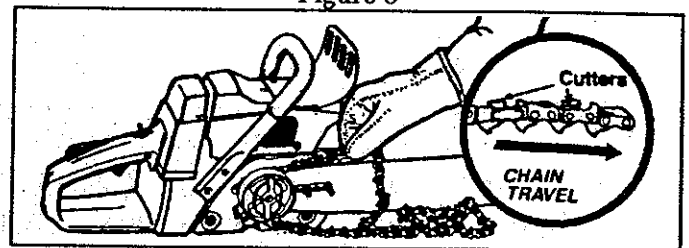

Figure 9
4. Hold the chain with the cutters facing as shown in Figure 9 (inset).
5. Place the chain over and behind the clutch drum and onto the sprocket. Figure 9. Fit the bottom of the drive links between the teeth in the sprocket.
7. Start at the top of the bar and fit chain drive links into the groove around the guide bar. Figure 9.